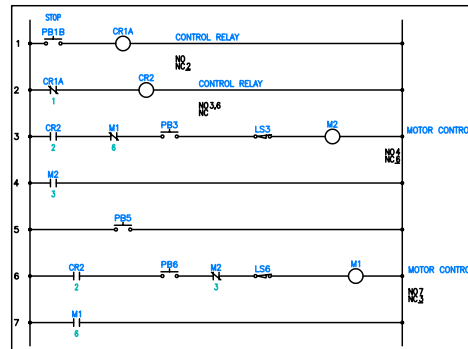

Figure 6-50 The ladder after deleting components
2. Select LS1A from rung 1 and LS4 from rung 4, and then press ENTER; the **Search for / Surf to Children?** dialog box is displayed. Choose the **No** button from this dialog box; components are deleted from the drawing, as shown in Figure 6-50.